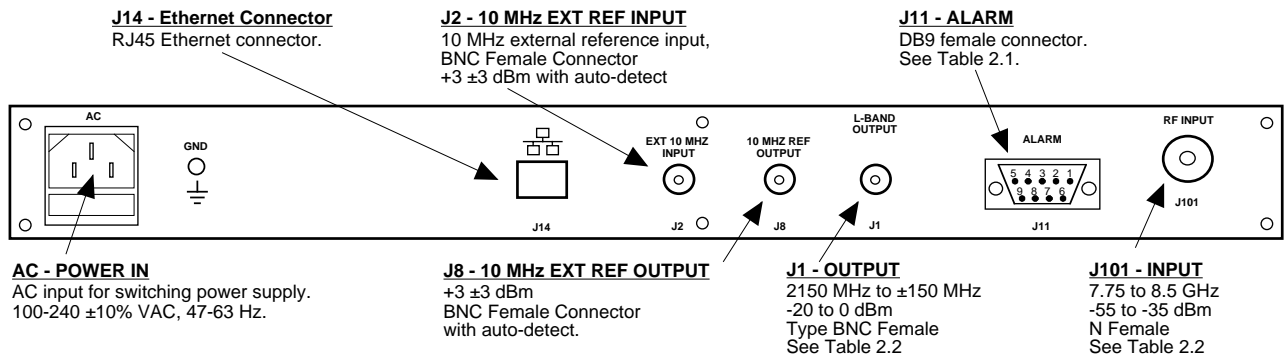

FIGURE 2.1 3116-7786-2150 Rear Panel I/O's
2.2 Rear Panel Input/Output Signals - Figure 2.1 shows the input and output connectors on the rear panel.
- 1.) Connect a -55 dBm to -35 dBm signal to RF INPUT, J101 (Figure 2.1).